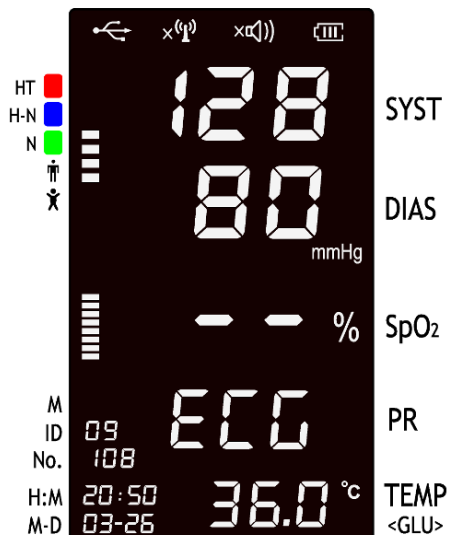

Figure 3.1C Measuring screen
4. When "ECG" appears on the display screen of the All-in-One Health Monitor (as shown in figure 3.1C), it means the